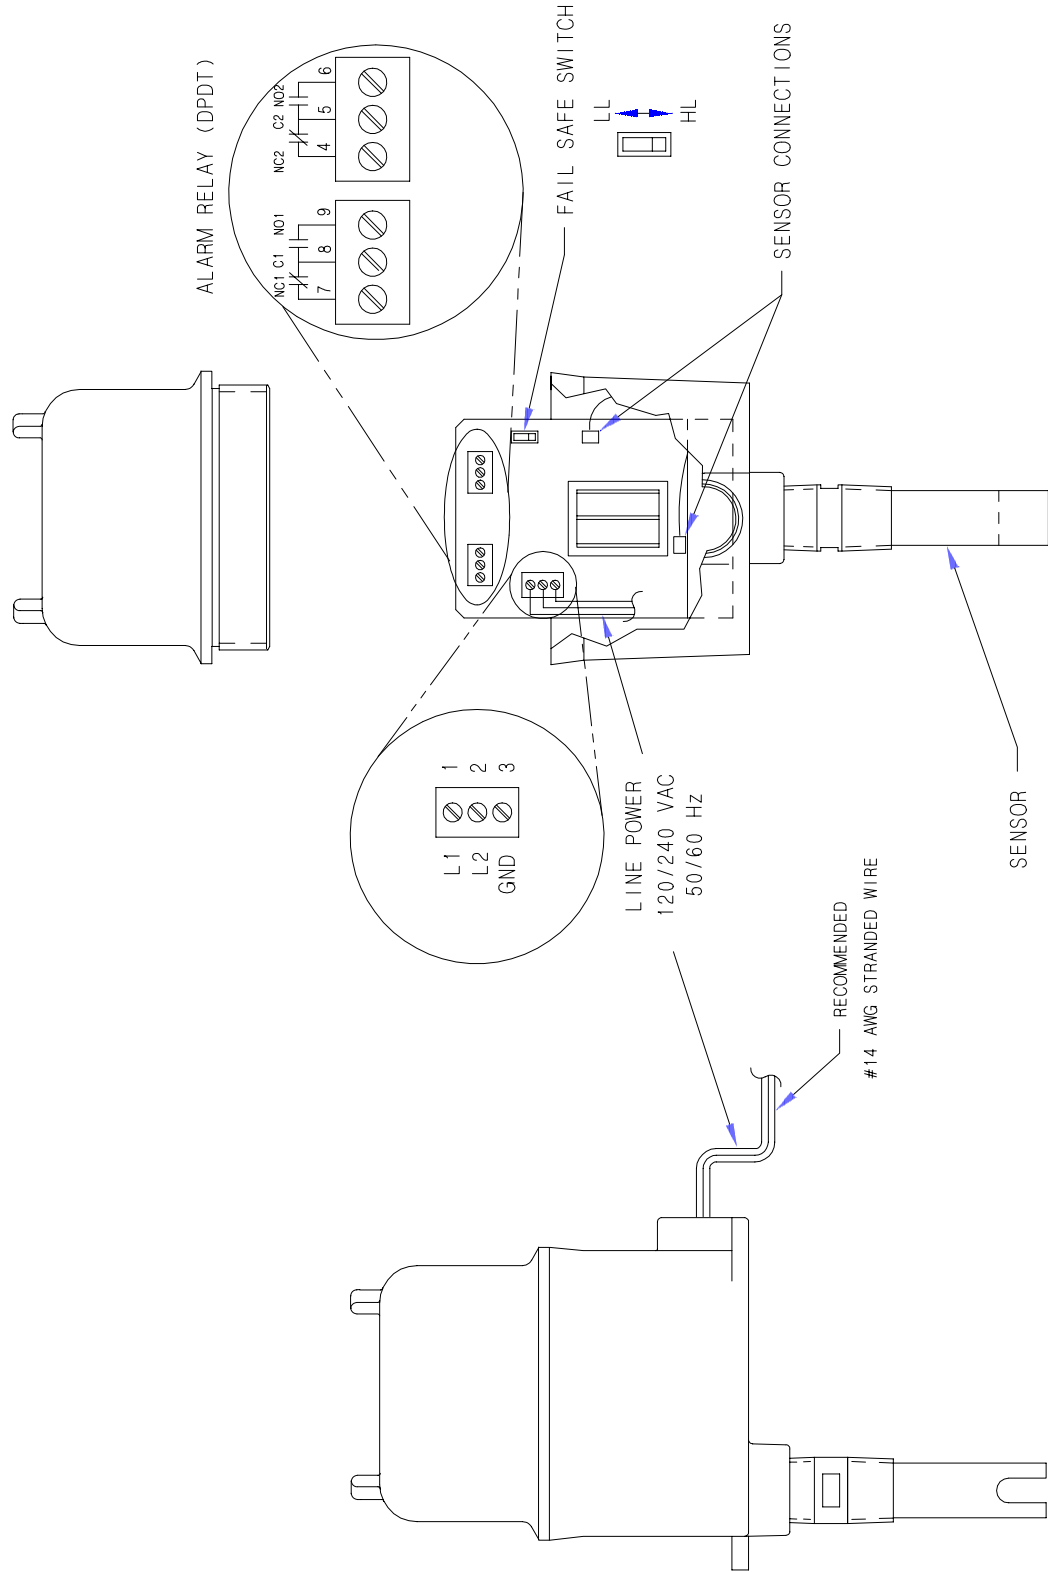

Figure 2-7
3. Make all electrical connections to the switch per the wiring diagram shown in Figures 2-7 through 2-9, using 14-gauge or smaller wiring. All connections are made on the terminal strips.